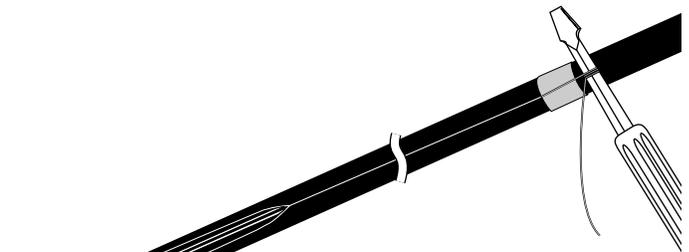

Figure 17
6.7 Using the shaft of a screwdriver as a handle, pull one rip cord at a time through the sheath to the opposite wrap of tape (Figure 17).